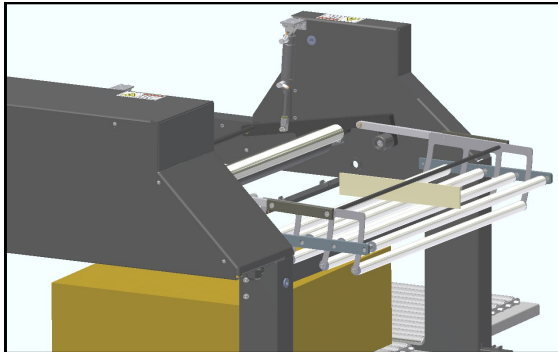

Figure 4-9A. Spacer Placement.
1. Place a 2.25" spacer between the Stationary Rollers and the Black Tie Bar of the Dancer. Allow the Dancer to rest on spacer. Figure 4-9A.